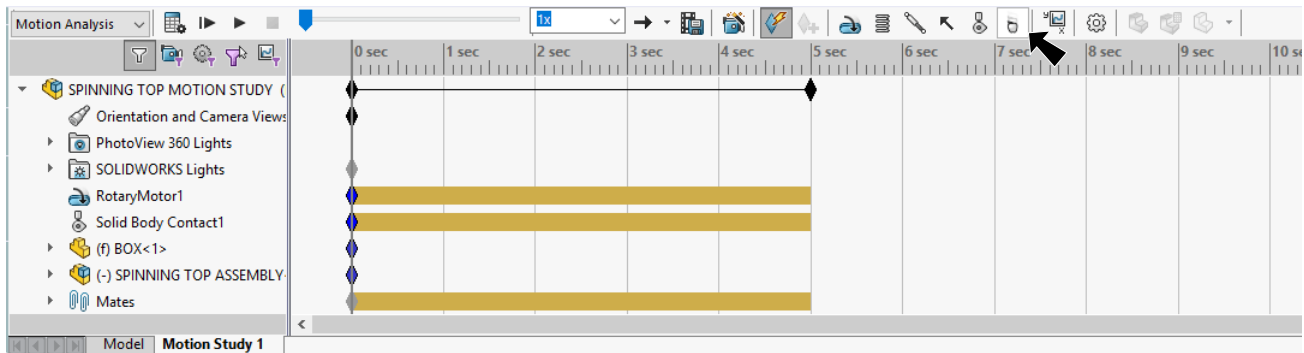

Fig. 9
Step 1. Click **Gravity**  on the Motion Manager toolbar, **Fig. 9**.